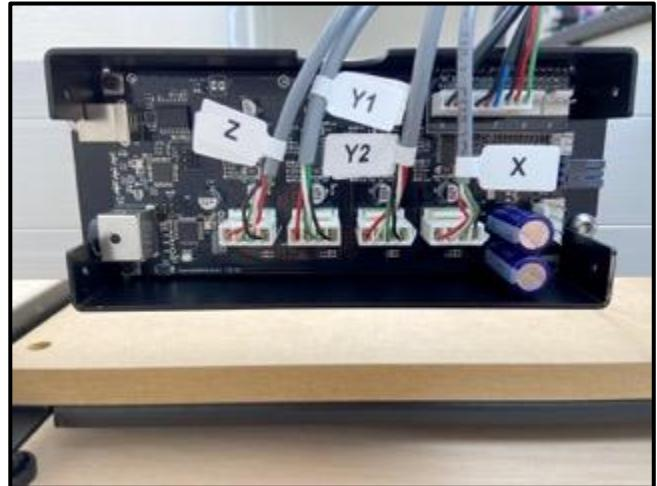

Figure 8-8
1. Plug the 4-pin stepper motor extension cables labeled "Z," "Y1," "Y2," and "X" into their respective ports along the bottom of the controller board. Be sure to match the labels on the cable with those of the board. See *Figure 8-8*.
3. Use the 2mm hex key, one (1) M3x6mm flanged button head screw and the three (3) thumb screws to re-install the controller unit cover.